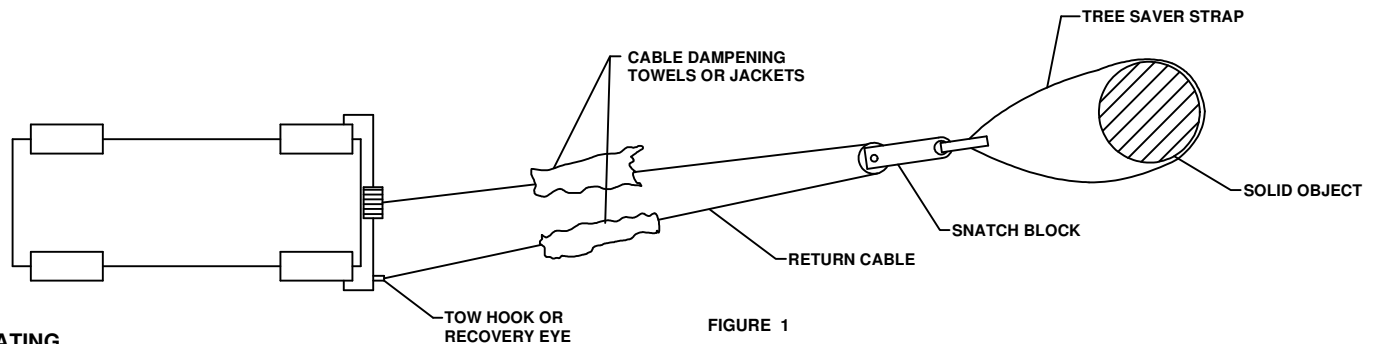

FIGURE 1
3. Attach return cable to tow hook or recovery eye when using a snatch block (See Figure 1).